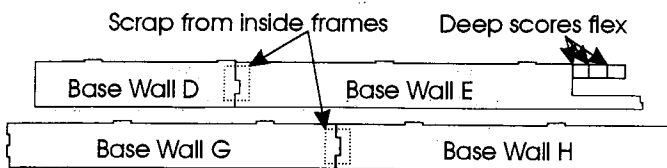

Figure 2
2. Splice Base Walls D and E together and G and H as in Fig. 2. Use waste pieces from the inside of frames on FH-3 to splice Base Walls D and E and Base Walls G and H together on the bad side. Glue and tape Base Walls together.